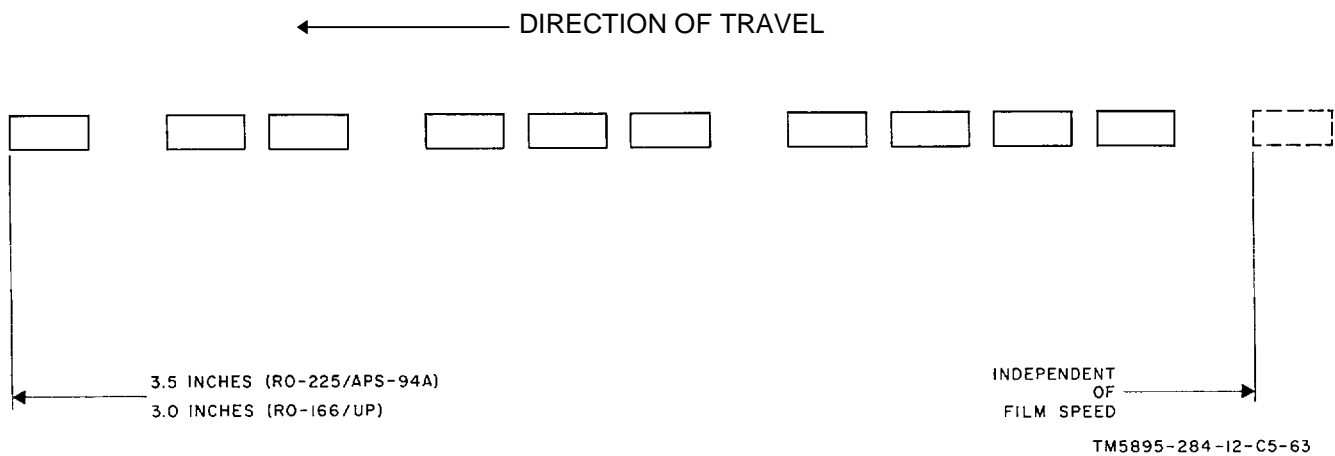

Figure 1-23. Present position display printout spacing on photoradar map.
d. *Code Spacing (fig. 1-23).* The fiducial marks and the ppd printouts are recorded in group sequences separated by slightly wider spacings. Ten printouts occur for every 3½ inches of film in the RO-225A,/APS-94A recorder and every 3 inches if the RO-166B/U recorder is used. These displays appear in a recurring sequence of 1, 2, 3, and 4 printouts per group (fig. 1-23). This code spacing corresponds to a similar code spacing of the fiducial marks, thus correlating the ppd with the fiducial mark recorded at the same time. Correlation of the ppd printouts with corresponding fiducial marks is illustrated in figure 1-22. The coding permits correlation of fiducial marks with corresponding ppd printouts despite the presence of drift-angle correction.